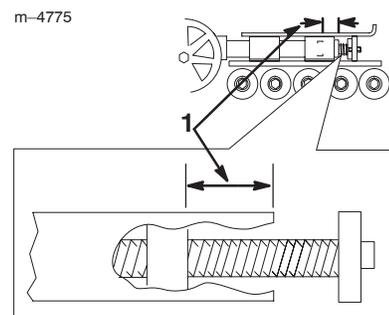
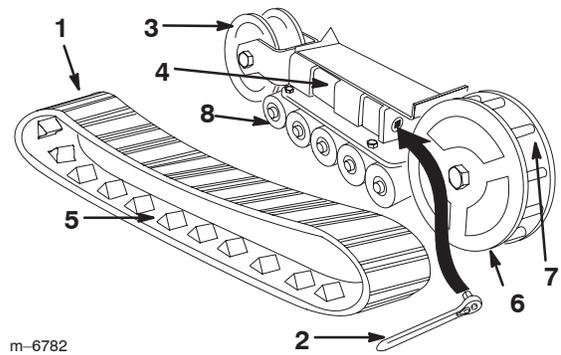

Figure 44
Figure 46
Check and adjust the track tension every 100 operating hours. There should be 2-3/4 inches (7 cm) between the tension nut and the back of the tension tube (Fig. 44). If not, adjust the track tension using the following procedure:
- Using a 1/2 inch drive socket (Fig. 46), turn the tensioning screw counter-clockwise until the distance between the tension nut and the back of the tension tube (Fig. 44) is 2-3/4 inches (7 cm).
- Push the tension wheel toward the rear of the unit to move the fork tube against the frame (Fig. 46). (If it does not touch the frame, continue turning the tensioning screw until it does.)
- When the track is off of the tension wheel, remove it from the drive sprocket and road wheels (Fig. 46).
- Beginning at the drive sprocket, coil the new track around the sprocket, ensuring that the lugs on the track fit between the spacers on the sprocket (Fig. 46).
- Push the track under and between the road wheels (Fig. 46).
- Turn the tensioning screw counter-clockwise until the distance between the tension nut and the back of the fork tube (Fig. 44) is 2-3/4 inches (7 cm).